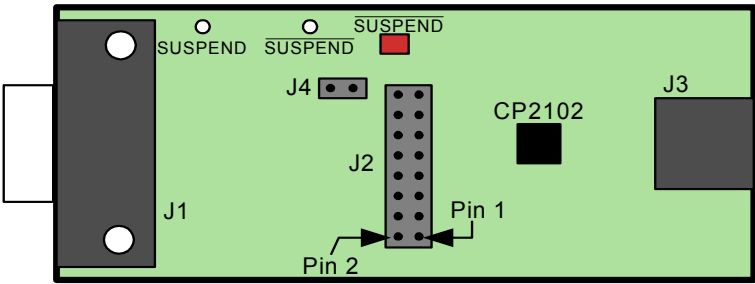

Figure 2. CP2102 Evaluation Board
The CP2102 Evaluation Kit includes an evaluation board with a CP2102 device pre-installed for evaluation and preliminary software development. Numerous input/output (I/O) connections are provided to facilitate prototyping using the evaluation board. Refer to Figure 2 for the locations of the various I/O connectors.
- Updated Figure 2 on page 4: